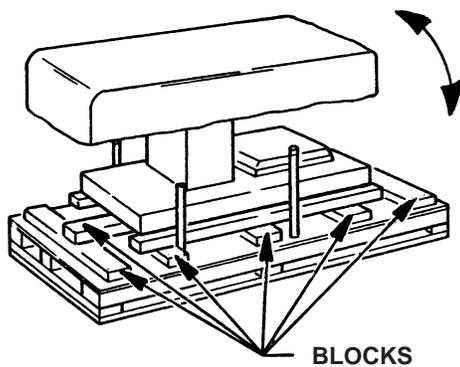

Figure 5.
7. The positioning blocks that extend under the table are two-piece. To remove them, rock the table to one side and remove the blocks, then rock the table to the other side and remove the remaining blocks. See figure 5.